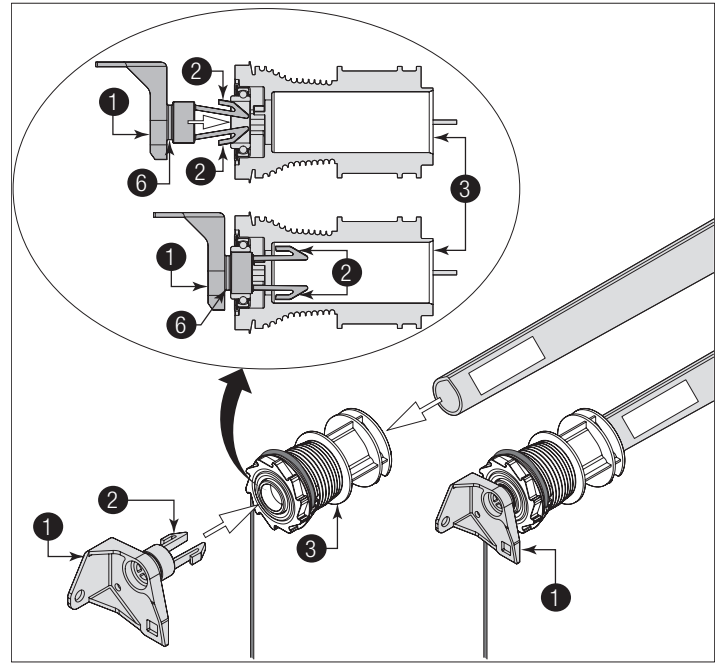
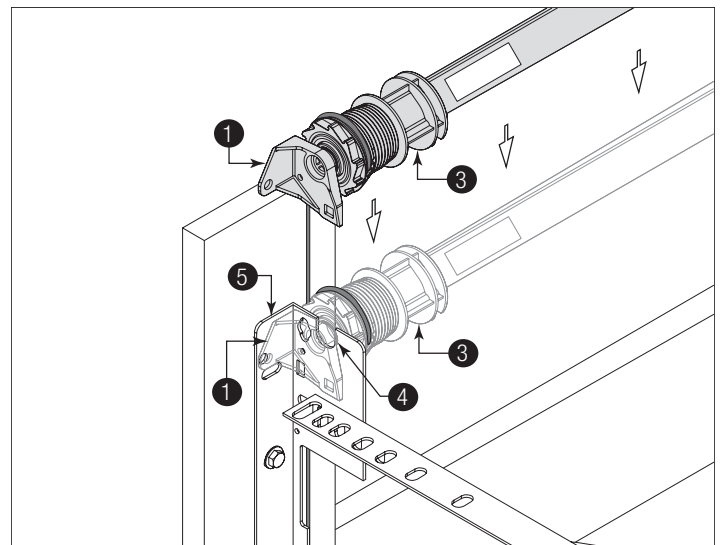

Figure 38
Figure 39
**See Figure 38 and Figure 39 for the following steps.**
NOTE: Figures 38 through 40 shows the right side cable drum assembly. Repeat the process for the left side.